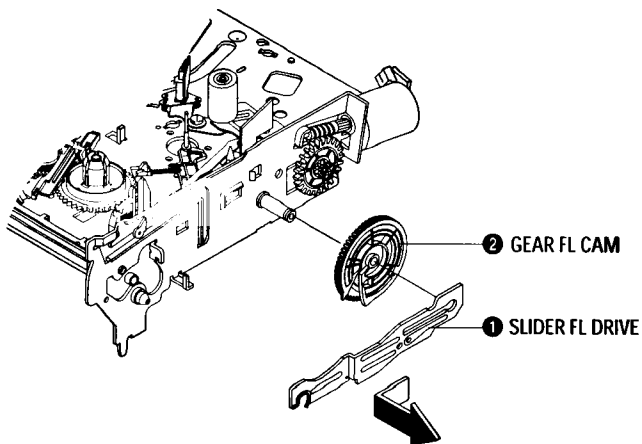

Fig. 1-6 Slider FL Drive Removal
- 1) Pull the Slider FL Drive ❶ to the front direction.
- 2) Remove the Slider FL Drive ❶ in the direction of arrow. (Refer to Fig. 1-6)
- 3) Remove the Gear FL cam ❷.
**Note :** When reinstalling be sure to reassemble Slider FL drive ❶ after you insert the Boss of Lever FL ARM-R in Groove of Slider FL drive ❶.
**Assembly :** Align the Gear FL Cam ❶ with the Gear worm wheel Post as shown drawing. (Refer to Timing point)